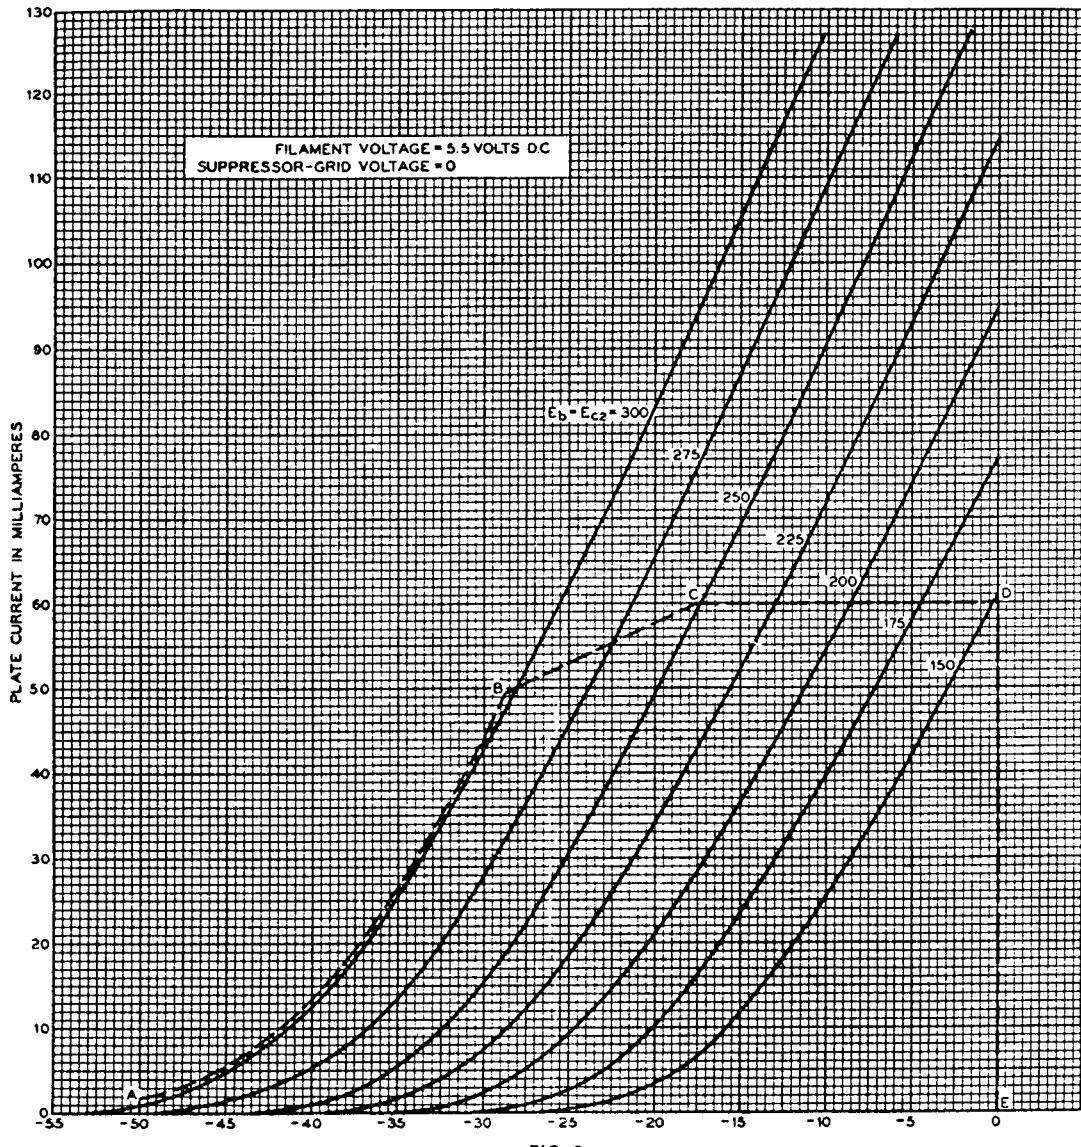
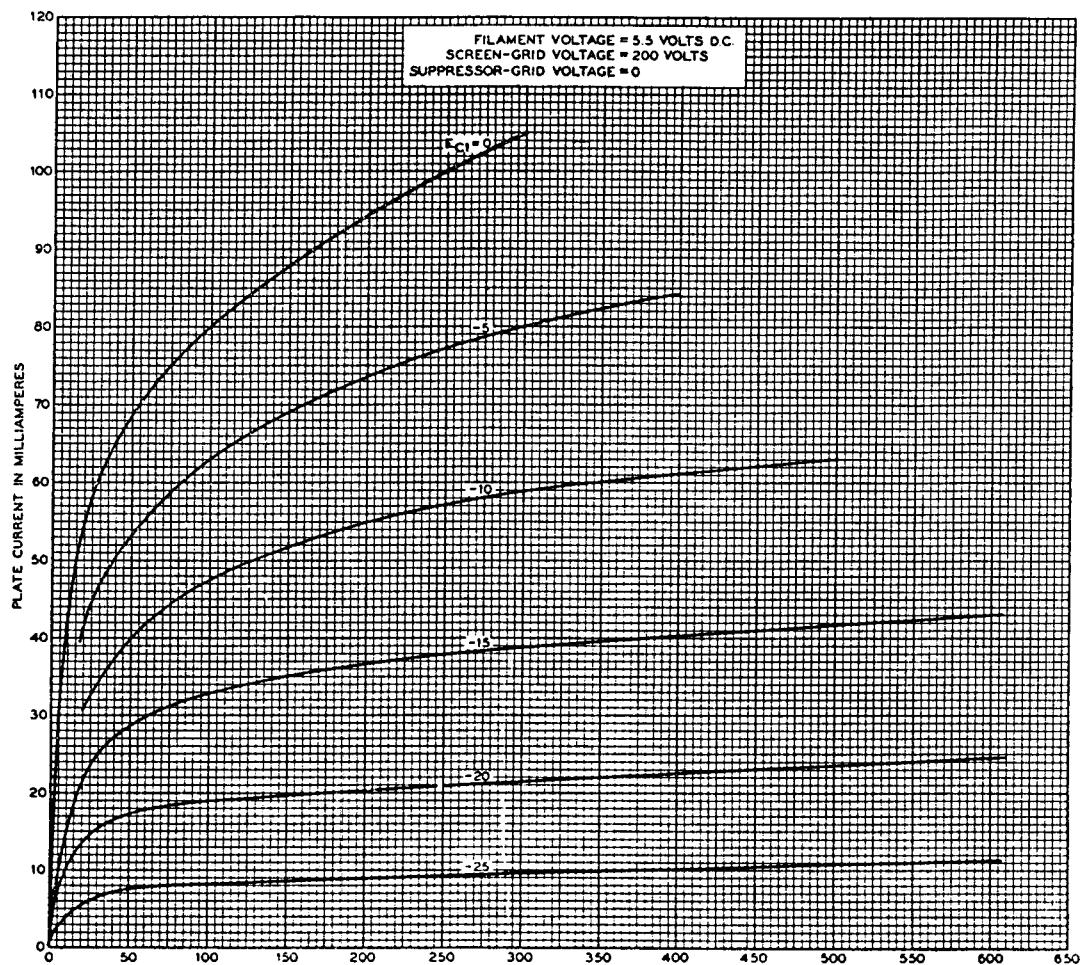
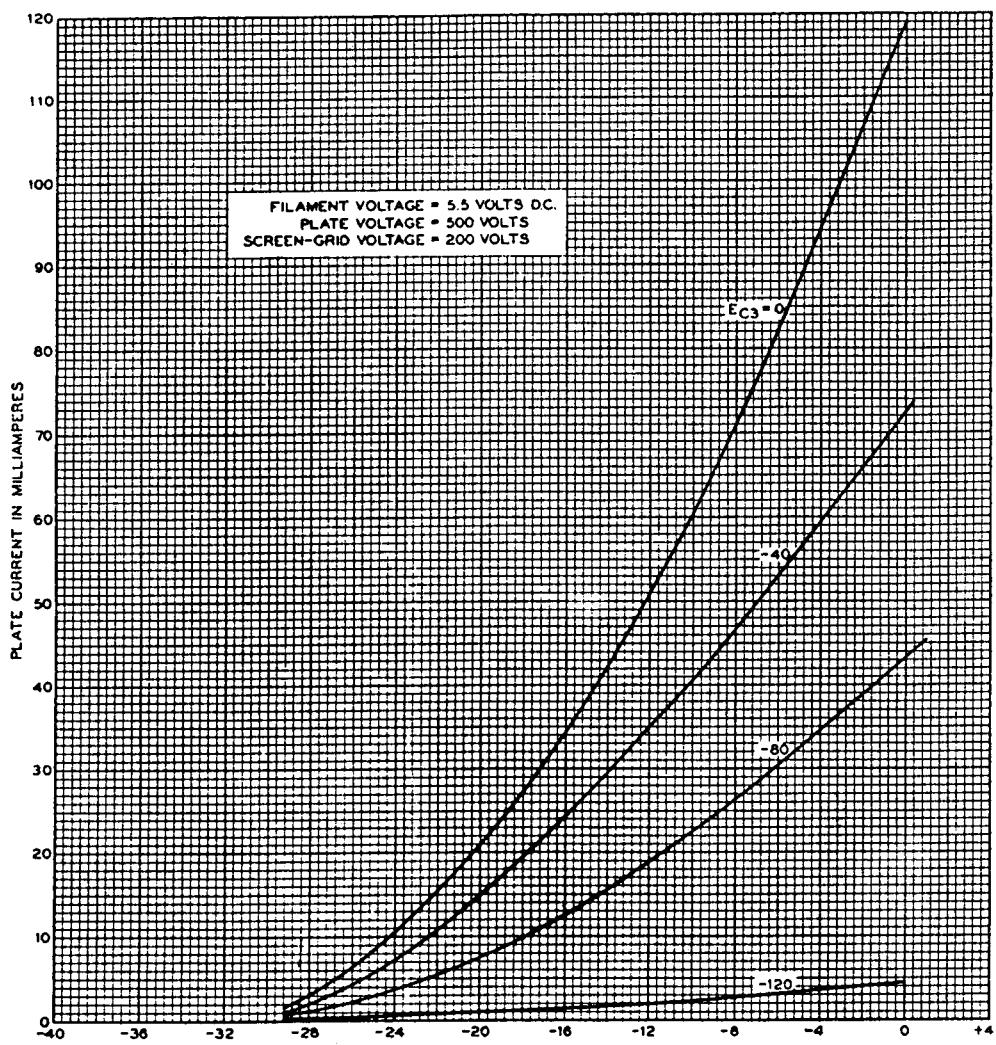

FIG. 3
FIG. 5
FIG. 10
**Characteristics**—Plate current and screen-grid current characteristics of a typical 307A tube are shown in Figures 3 and 4, respectively, as functions of control-grid bias for several values of screen-grid and plate voltages and zero suppressor-grid voltage. The plate voltage for these characteristics is equal to the screen-grid voltage. Plate current and screen-grid current characteristics are shown as functions of plate voltage in Figures 5 and 6, respectively, for a screen-grid voltage of 200 volts and zero suppressor-grid voltage. Corresponding amplification factor, plate resistance, and transconductance characteristics are shown in Figures 7, 8 and 9, respectively. Plate current and screen-grid current characteristics are shown as functions of control-grid bias in Figures 10 and 11, respectively, for a plate voltage of 500 volts, a screen-grid voltage of 200 volts, and several values of suppressor-grid voltage.
Permissible operating conditions for Class A operation are included within the area, A B C D E, in Figure 3. Nominal performance data are given in the table on page 3 for typical operating conditions represented by selected points within this area. It is assumed that the plate voltage for every operating condition is equal to the screen-grid voltage. Other plate voltages, however, are per-